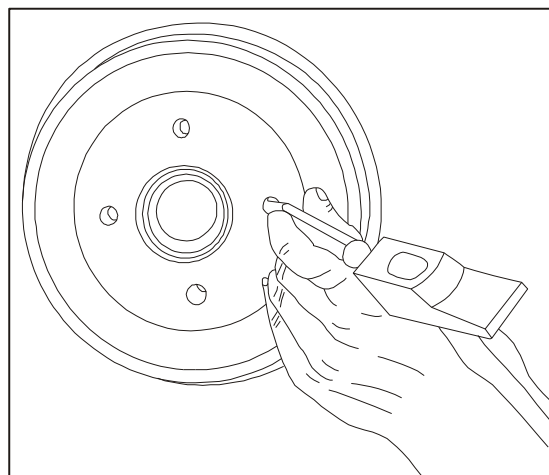

Fig. 5-19 Removal of Brake Drum
- (1) Loosen the bolt of rear tyre.
- (2) Lift and support the rear of car make the rear wheel suspended, and then remove the wheel.
- (3) Loosen the parking brake cable.
- (4) Remove the hub cover.
- (5) Remove the hub fastening nut and its washer.
- (6) Remove the brake drum. If it's difficult to remove the brake drum, move the brake clearance self-control device from the side with a punch through the tyre bolt hole (see Fig.5-19), so as to remove the brake drum.